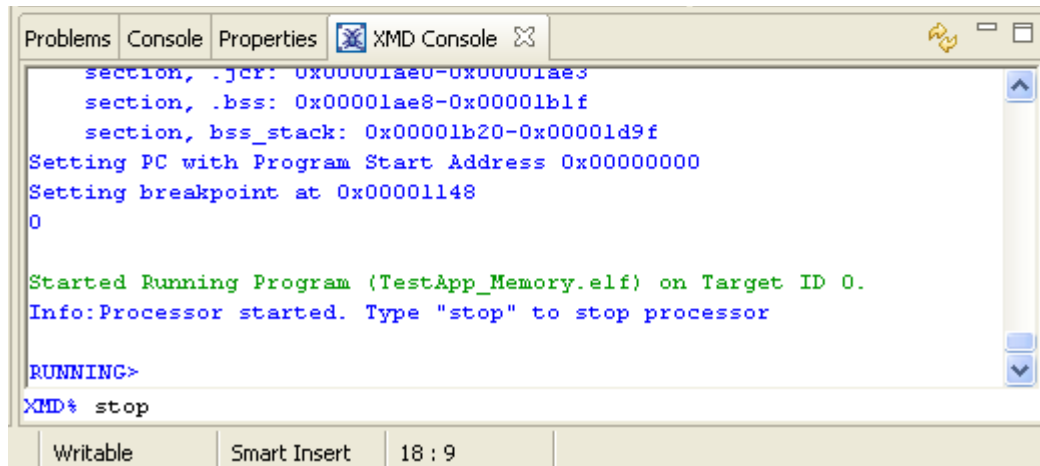

Figure 1-72. SDK's XMD Console
- ⑤ In the XMD Console view, type 'stop' at the XMD% prompt to stop the running process (Figure 1-72)